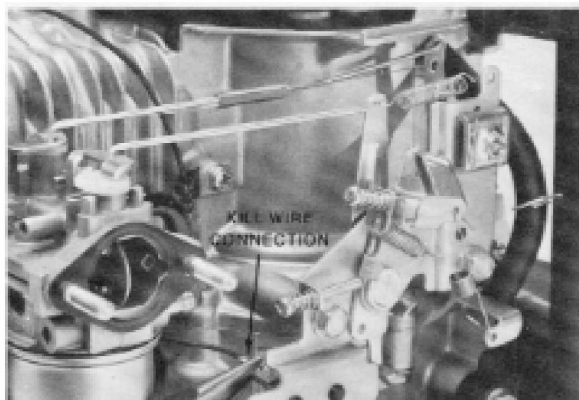

Figure 3-12
1. Make sure the kill wire is properly connected to the grounding tang on the throttle control. See Fig. 3-12.